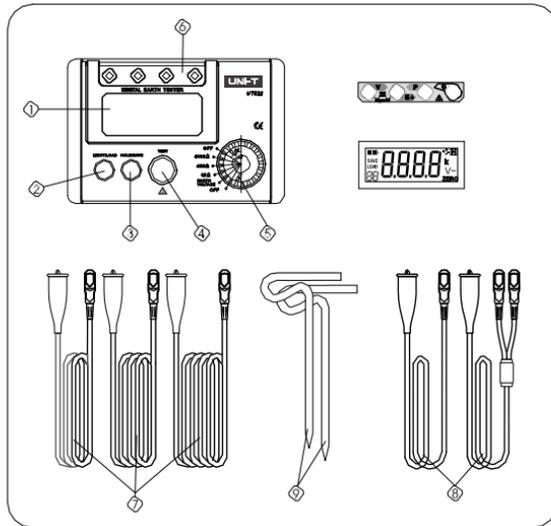

figure 1
4、Product outlook & accessories: (figure 1)
- ① LCD Display
- ② LIGHT/LOAD button
- ③ HOLD/SAVE button
- ④ TEST button
- ⑤ ON/OFF function
- ⑥ Input terminals
- ⑦ Standard 3-Wires test leads
- ⑧ Simple 2-Wires test leads
- ⑨ Auxiliary earth stakes